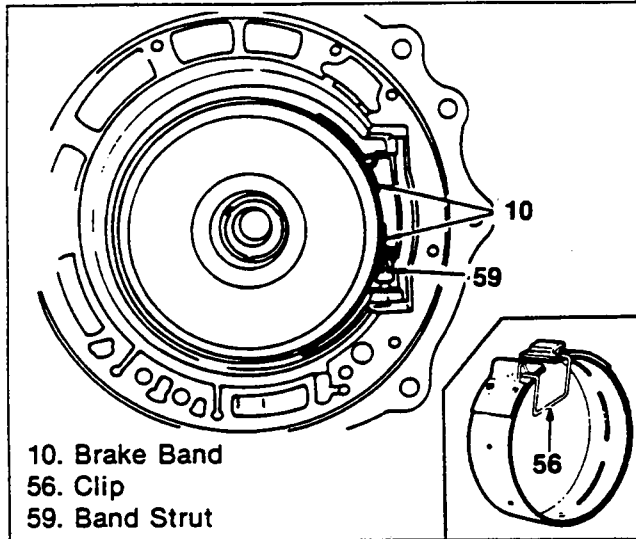

Figure 25. Brake Band Removal (2)
2. Remove the brake band carefully so that the band strut is not dropped (figure 25).
3. Hold the brake band in a circular shape with a fabricated clip (figure 25).